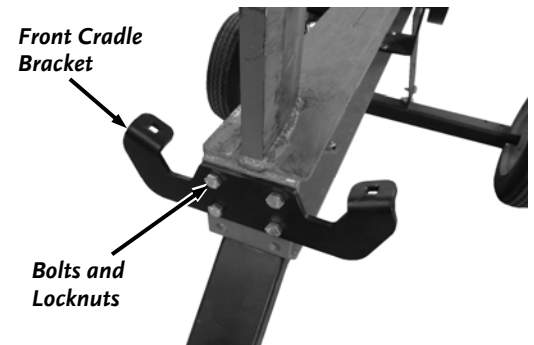

Figure 3
3. Remove the four Bolts and Locknuts the front Cradle Bracket using two 9/16" Wrenches Install to the end of the Beam with (Figure 3).